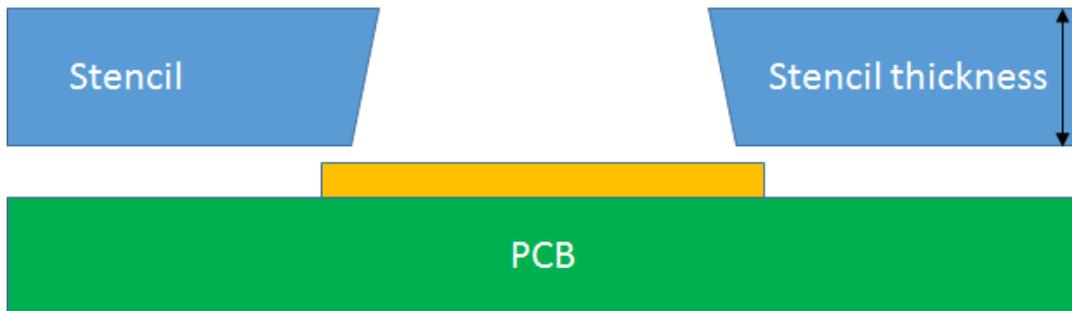

Figure 10 – Stencil cross sectional view
- Trapezoidal walls (5° tapering) with bottom opening larger than the top to ensure uniform release of solder paste and reduce smearing as shown in figure 10.
Time (t_p)' within 5°C of the specified classification temperature (T_c), see Figure 10	30* seconds